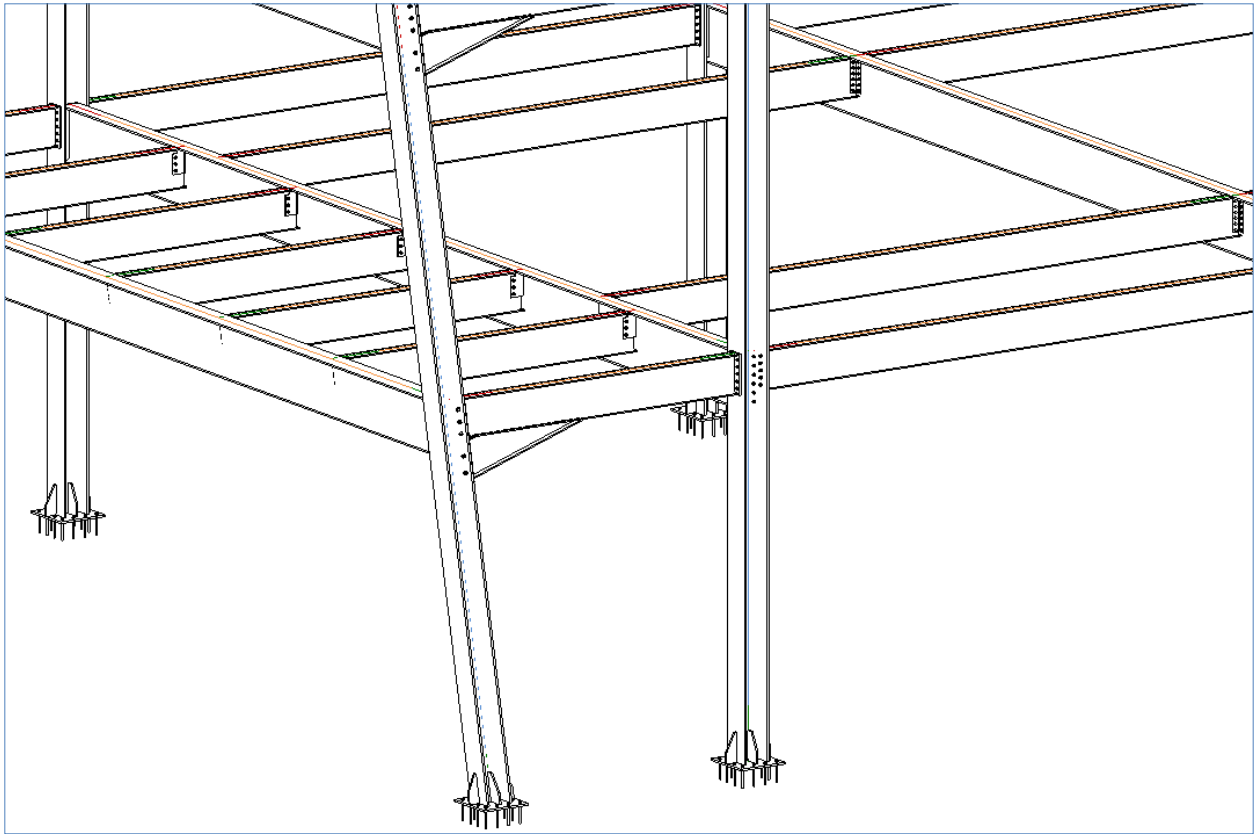

FIGURE 35: THE CONNECTION ELEMENTS DISPLAYED AFTER TURNING THEIR VISIBILITY ON
6. Navigate close to various joints and notice the connection elements in the model. Figure 35 shows a zoomed in view of the model showing various connections.